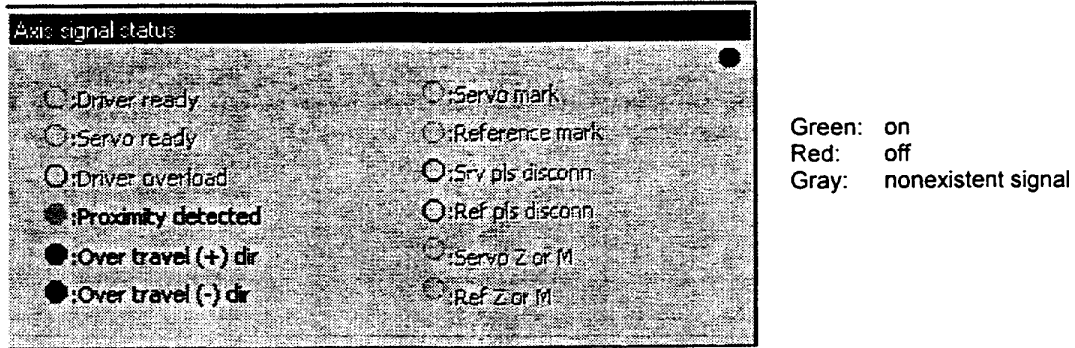

Figure 7.12 “Axis signal status” dialog box
In the “Terminal” menu, click “*Axis signal status (A)*” under “Monitor” to display the “Axis signal status” dialog box (see Figure 7.12).